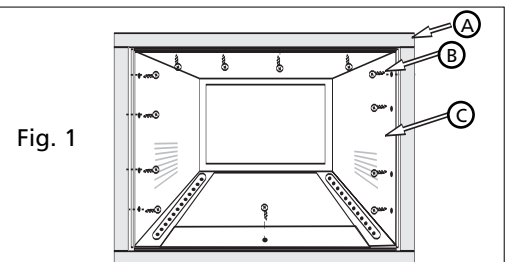

Fig. 1
4. Make sure cabinet projects into the roomside of the wall 1 1/4" at the top and 1 1/2" at the bottom to ensure proper tilt and access to the anti-theft screw, then fasten cabinet to the frame by drilling twelve (12) 1" wood screws (not supplied) through the cabinet and into the frame. (Fig. 1 & 2)